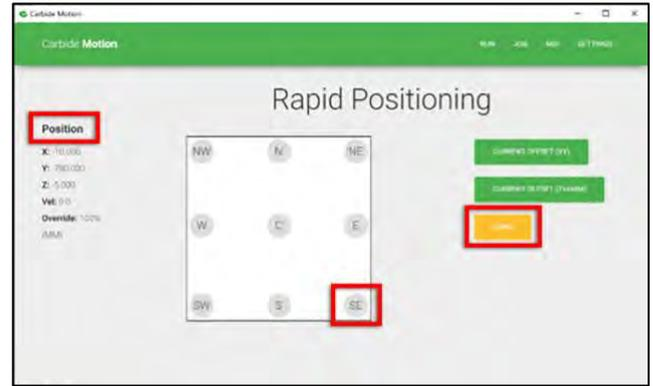

Figure 25
- a. Click the **Position** label. This will toggle the view to the machine coordinates. See *Fig. 25*.
- b. Click **Rapid Position**, then click the **SE** button to move the spindle to the front-right of the machine. Once in position, click **DONE**. See *Fig. 25*.